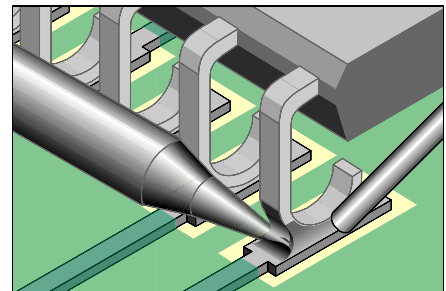

Figure 2: Place the soldering iron tip at the junction between the pad and component lead.
3. Place the soldering iron tip at the junction between the pad and component lead at one of the corners. Apply additional solder as needed. (See Figure 2).